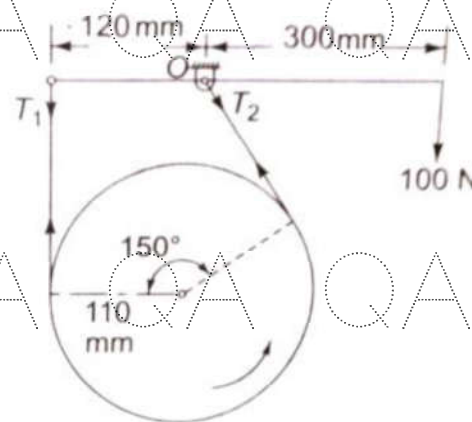

Figure 2
7. The figure 2 shows a simple band brake which applied to a shaft carrying a flywheel of 300 kg mass and of radius of gyration 280 mm. The drum diameter is 220 mm and the shaft speed 240 rpm. The coefficient of friction is 0.3. Find the brake torque when a force of 100 N is applied at the lever end. Also, determine the number of turns of the flywheel and time taken by it before coming to rest.